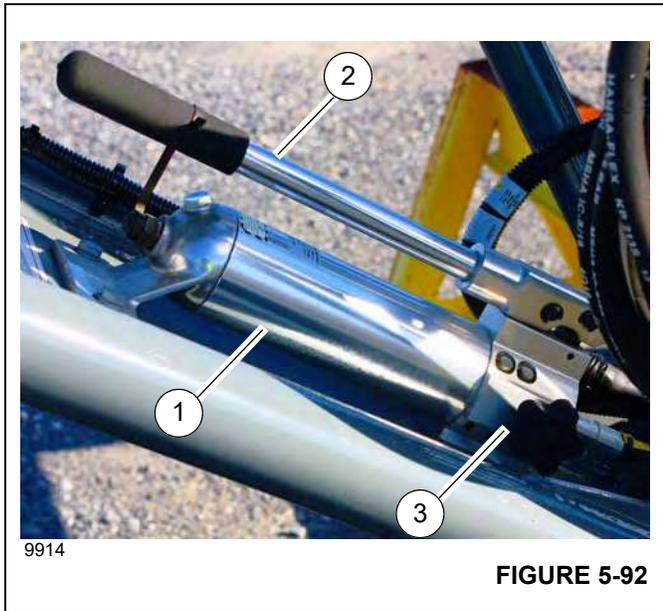

FIGURE 5-92
20. Install four pins (5), (Figure 5-78) and retaining clips (6) to secure the boom extension to the boom nose. If necessary, use the jack (1), (Figure 5-92) to install the fourth pin: